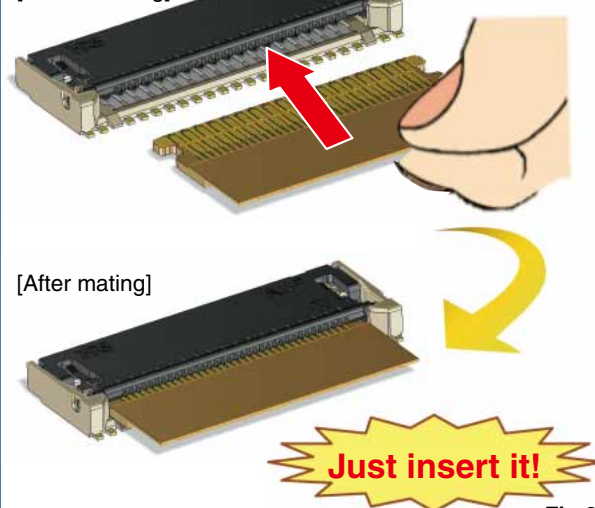

Fig.2
- Easy to use single action lock design by simply inserting FPC after mounting. (Fig.2) (Release the lock by operating or opening the lock lever when removing FPC.)